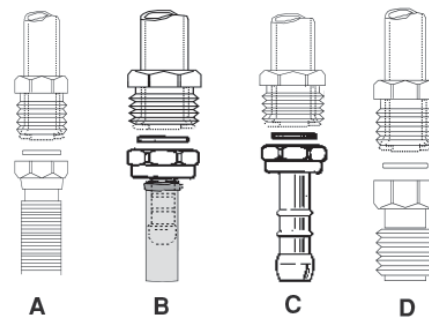

Figure 11
• CONNECTING WITH A METAL HOSE (A – FIG. 11)
• CONNECTING WITH A RUBBER HOSE (B AND C – FIG. 11)